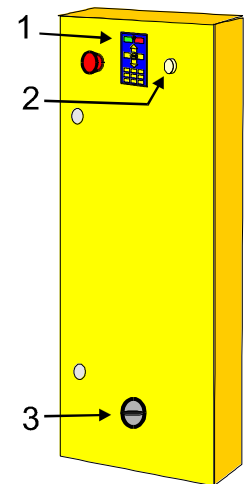

Fig.1
1. **Turn the main switch to off on the control cabinet. (3. Figure 1).**
5. **Turn the main switch on. (3. Figure 1)**
Now that the protective covers are removed take care not to touch any live parts of the electric installation. Turn the main switch on. Then press RESET button (2. Figure 1) on the control console.